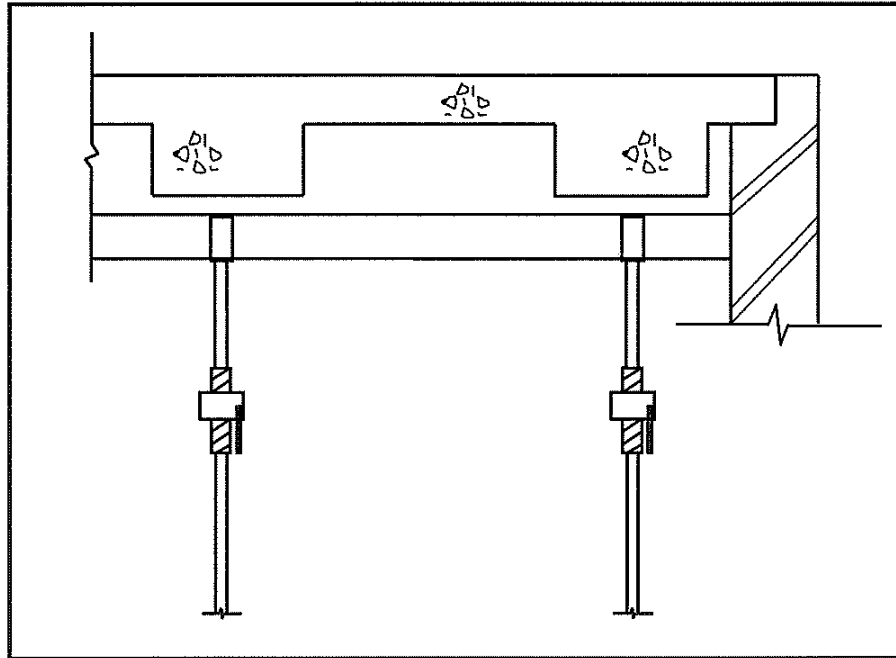

FIGURE 4.9
- 4.9 FIGURE 4.9 below shows the incomplete drawing of a vertical section through a concrete beam with floor slabs that is supported by a continuous head tree/bearer with adjustable props.